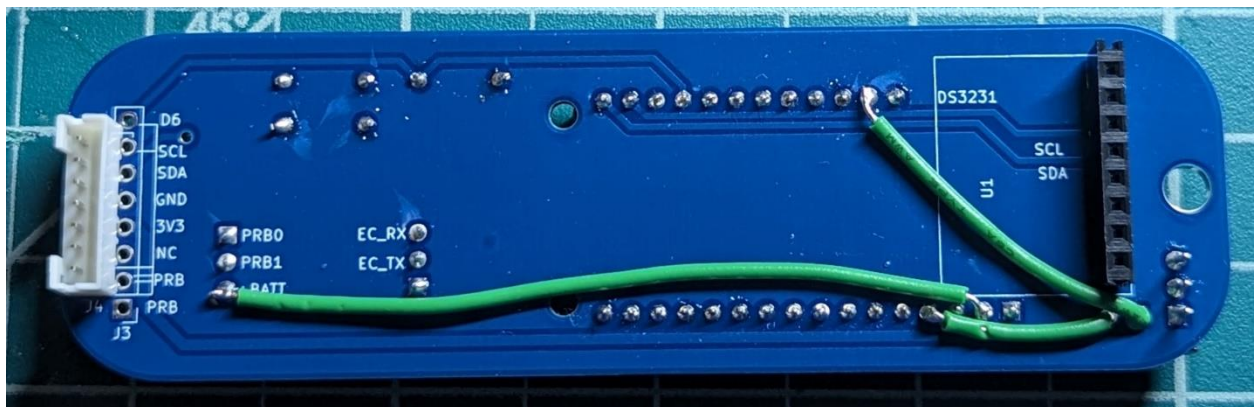

Figure 4. Reverse side of OpenCTD rev 6 carrier board with the necessary jumper cables to enable power of charging.
3. **Jump the +BATT pin to the 3V3 pin for the Adalogger M0.** On the reverse side of the board, solder a lead wire to the +BATT pin for the Atlas EZO EC chip and the pin labeled 3V3 on the headers for the Adalogger M0. Refer to figure 4 below.
1. **Connect one of the pins labeled J1 to GND.** It does not matter which of the J1 pins you route to the pin labeled GND on the headers to the Adalogger M0. Refer to figure 4 below.
2. Connect one of the pins labeled J1 to EN. Route the unused J1 pin to the header pin for EN, which is to the right of the pin labeled +BATT. This pin is unlabeled on the carrier board but its corresponding pin on the Adalogger M0 is labeled. Refer to figure 4 below.